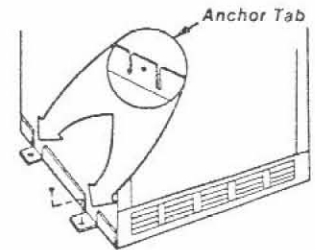

Figure 10
Step 4: Fireplace should be anchored to floor (in manufactured housing, fireplace MUST BE anchored to the floor). Bend down four (4) anchor tabs located at base of fireplace and secure to floor with screws or nails (see Figure 10).